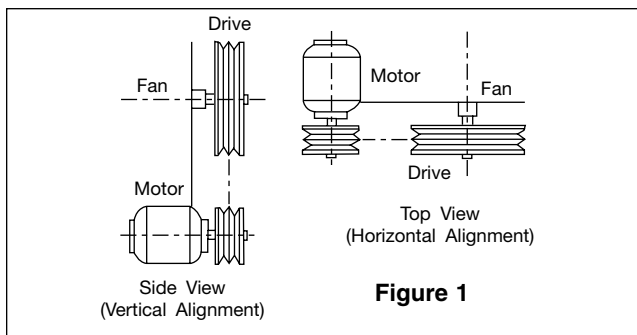

Figure 1
1. Fan and motor sheave must be in axial alignment. Shafts are parallel in both the vertical and horizontal planes (Figure 1).